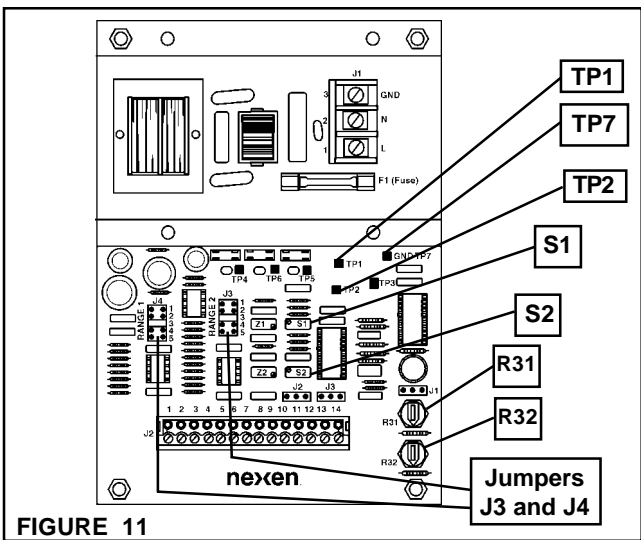

FIGURE 11
2. Connect a voltmeter to **TP7 (COM)** and **TP1** (See Figure 11).
3. Rotate **S1** clockwise to _____VDC, increasing the reading at **TP1** (Example: Maximum Tension = 100 Lbs. with a 50 Lb. weight, adjust the output for 2.5 VDC) (See Figure 11).
4. Connect a voltmeter to **TP7 (COM)** and **TP2** (See Figure 11).
5. Rotate **S2** counterclockwise until the voltmeter reads _____VDC at **TP2** (Example: Maximum Tension = 100 Lbs. with a 50 Lb. weight, adjust the output for 2.5VDC) (See Figure 11).